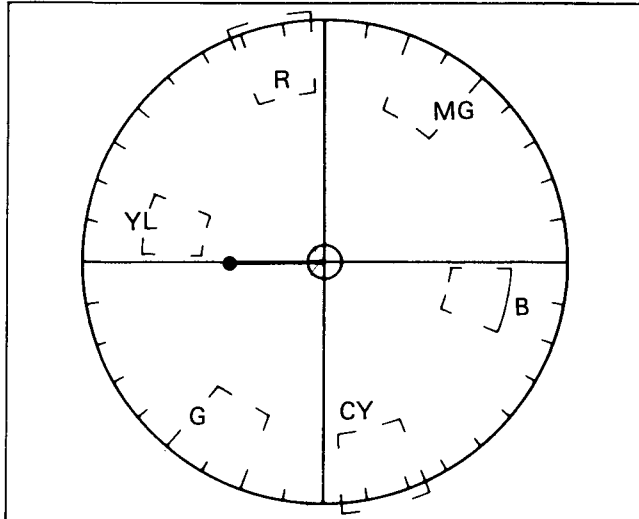

Fig. C24
- (1) Connect the jumper wire among TP511, TP512 and TP513 on process C.B.A. to cut the R-Y, B-Y feed back loop.
- (2) Aim the camera at the White Chart.
- (3) Supply the video signal to the vectorscope.
- (4) Adjust the White Balance Controls (VR311 and VR312) so that the color vectors are collected at the center of screen on the vectorscope as shown in Fig. C24.